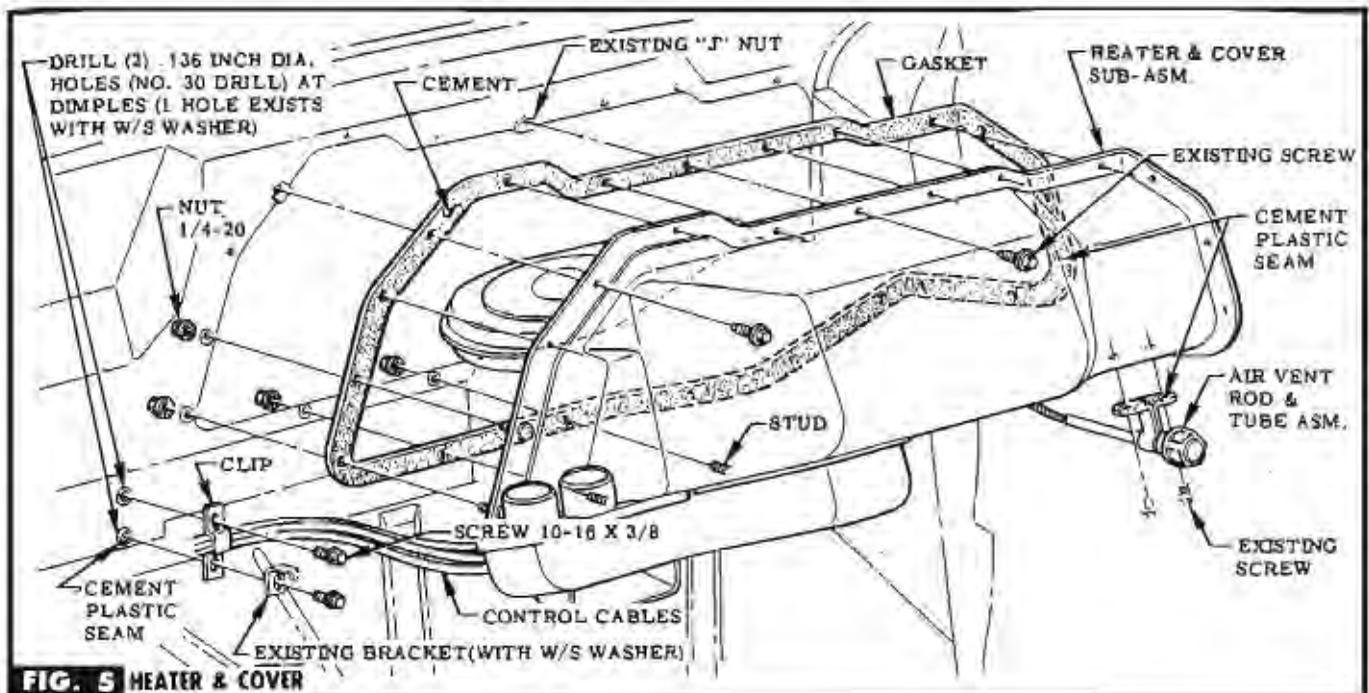

FIG. 5 HEATER & COVER
STEP 29 CEMENT GASKET TO COVER & APPLY PLASTIC BEAM CEMENT TO GASKET AT ATTACHING HOLES & TO DASH AT STUD HOLES. ATTACH COVER TO DASH PANEL WITH EXISTING "J" NUTS, RETAINED SCREWS & PROVIDED NUTS (IN BAG B). SEE FIG. 5.
STEP 30 APPLY PLASTIC BEAM CEMENT BETWEEN AIR VENT ROD & TUBE ASM. & COVER, THEN ATTACH WITH RETAINED SCREWS. SEE FIG. 5.
HOLE. SEE FIG. 5.
STEP 32 IF W/S WASHER DOES NOT EXIST, LOCATE DIMPLES & DRILL HOLES. SEE FIG. 5.
STEP 33 APPLY PLASTIC SEAM CEMENT TO HOLES & ATTACH CONTROL CABLES TO DASH PANEL WITH CLIP & SCREWS PROVIDED (IN BAG A). **NOTE** U W/S washers exist, attach retained bracket to bottom of clip. See Fig. 5.